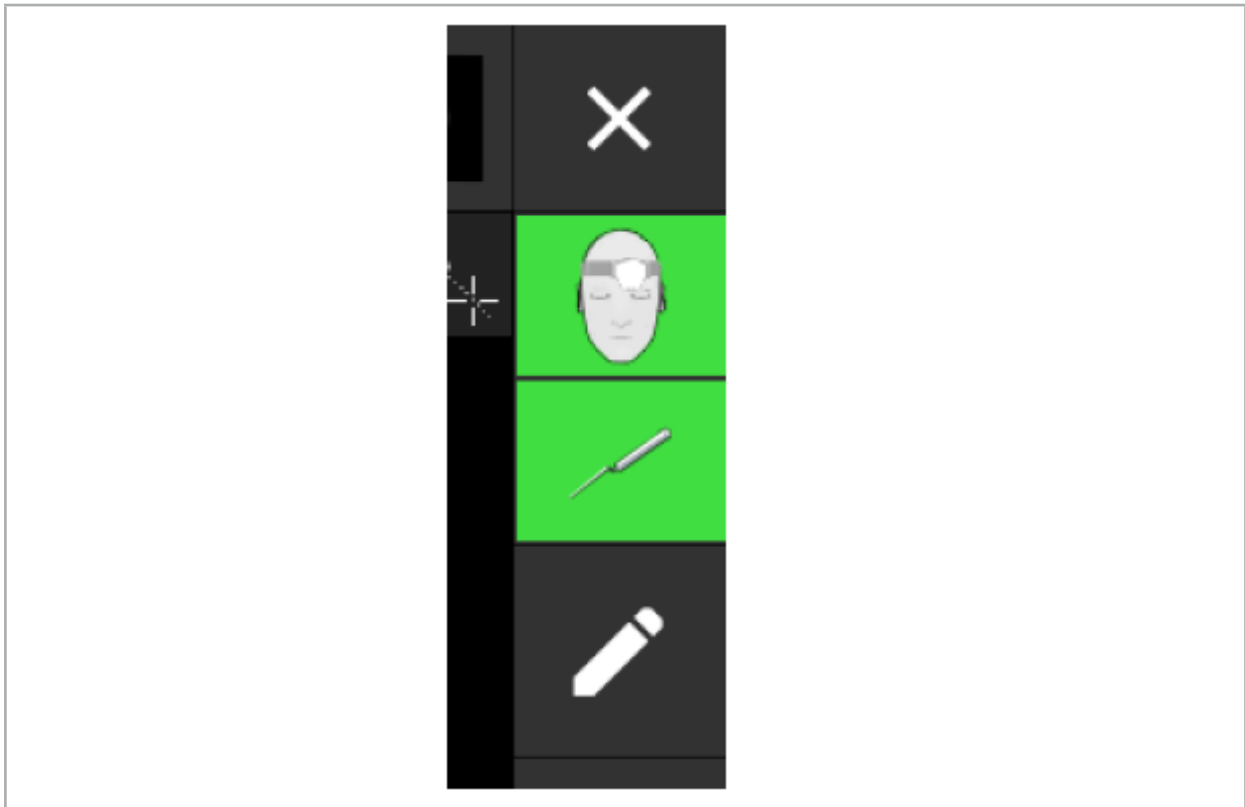

Figure 61 – Status Displays
1. Once the dataset is loaded and patient registration is chosen, the message “Ready for Navigation” appears. The NAVIGATION tab is activated (Figure 61).
During navigation mode, the status displays of Patient Tracker and navigated instruments are visualized in the taskbar on the right. The status displays visualize the visibility of the Patient Tracker and instruments that are in use with a green or a red background (Figure 61).